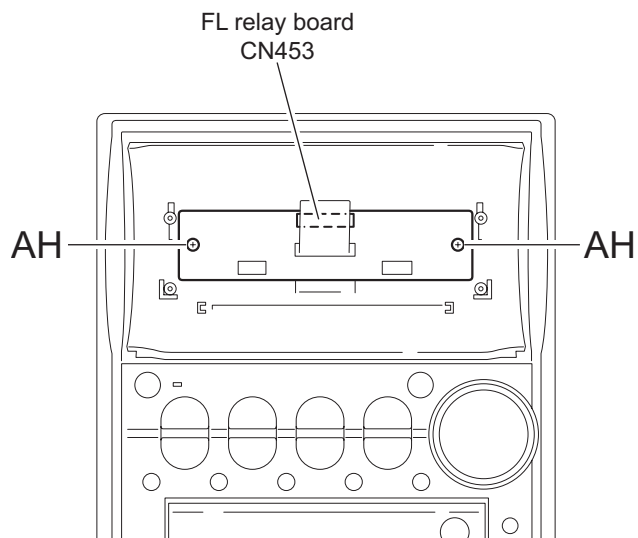

Fig.49
2.2.9 Removing the FL relay board (See Fig.49)